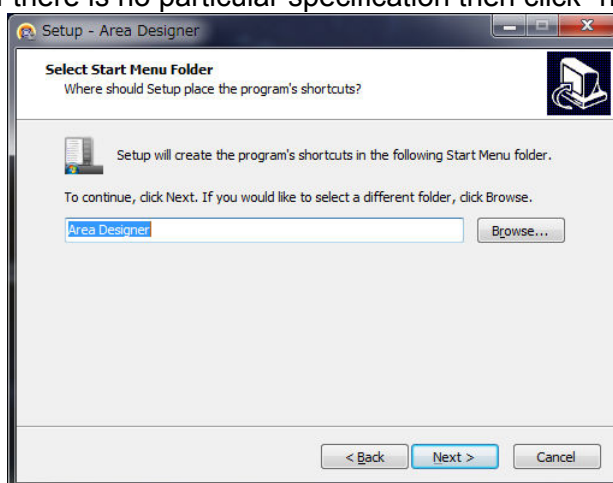

Fig 2-4 Specify the program group
6. Once you click next as shown in Fig 2-4 then proceed to additional task select screen. After selecting the additional tasks you would like for this setup to perform while installing, then click next.